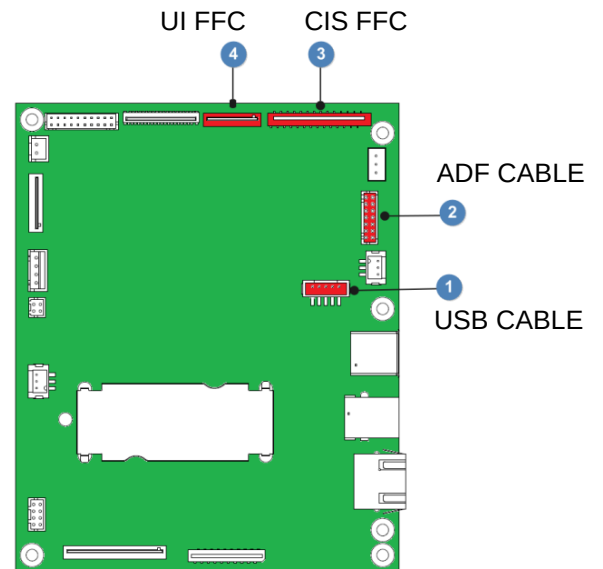

Fig. 2
2) Fig. 1: Remove two T3X8 screws, Fig. 2 Disconnect two FFC cables and two cables, Fig. 3: Push 4 slots to detach the ADF_FB Scanner.